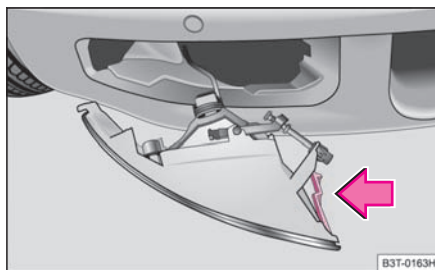

Fig. 221 Remove front fog
- Guide your hand into the opening in which the grille was located and press the spring bolt ⇒ fig. 221.